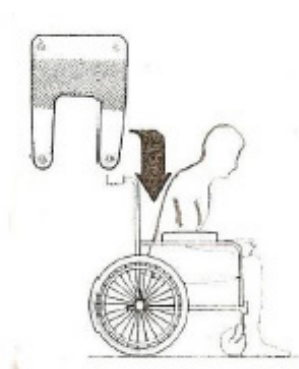

Figure 1
2. Slide the sling down behind the back of the client (the grab handle should be at the top, facing you) and tuck the bottom of the sling as low as possible underneath the buttock area (figure 1).